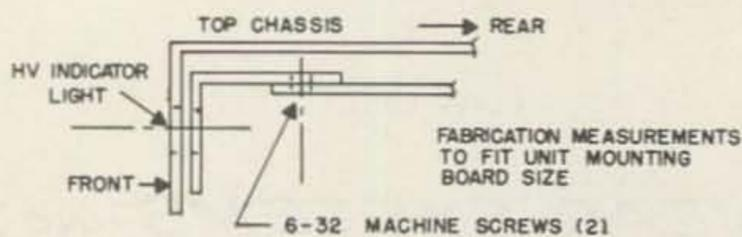

FIG 3
- Step 1 Bend an aluminum bracket as shown in Fig. 3. Mount under the nut that holds HV indicator light as indicated.